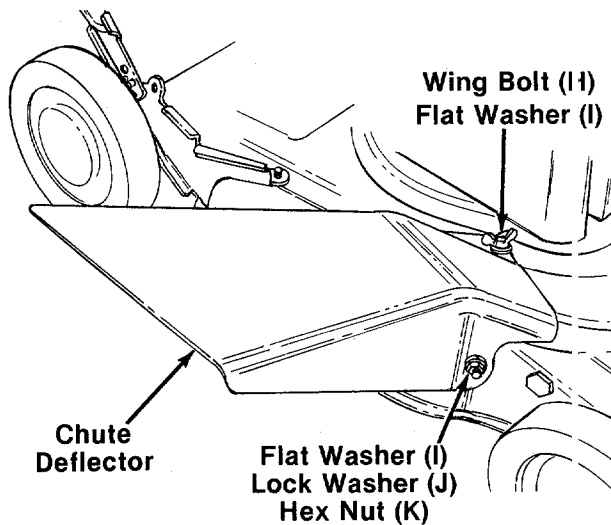

FIGURE 13.
4. Place the holes in the chute deflector over the bolts protruding from the right hand side of the deck, and slide it into position. Secure the top of the deflector with one flat washer (I) and wing bolt (H). See figure 13.
5. Secure the front of the deflector to the bolt protruding from the deck with one flat washer (I), lock washer (J) and hex nut (K). See figure 13.